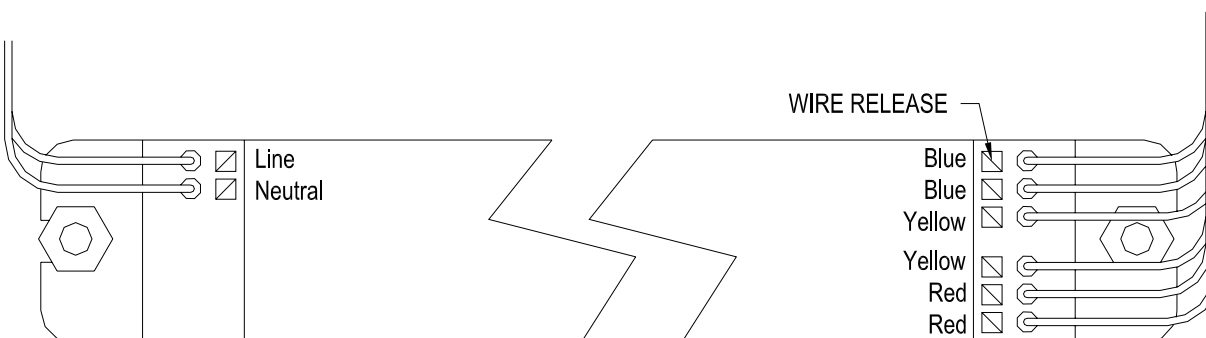

Figure 9. Light Ballast Wiring
- Remove wires from ballast terminals by depressing the release button for each wire with a 1/8" flat screwdriver (see Figure 9) then pull the wire out of the retainer.
- Remove the (2) retaining nuts using a 3/8" nut driver and remove the failed ballast.